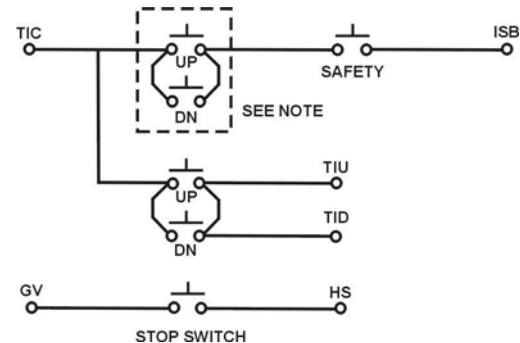

Figure 3-20
**Note:** When wiring in a car top run station make sure the stop switch is also wired in and functioning. [See Figure 3-20.]